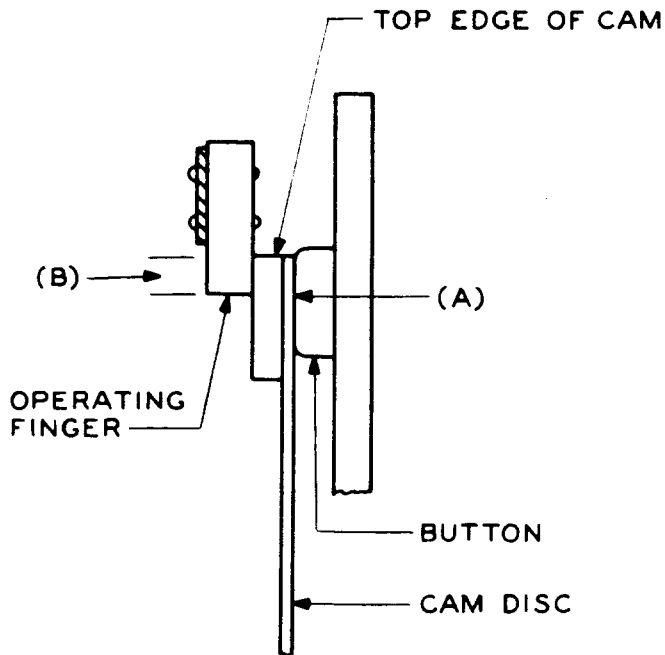

Fig. 3—Vertical Position of Cam
(a) **Fig. 3, (A):** With the motor endplay taken up toward the left, the cam disc shall exert a pressure against the button, measured just in front of the button of
(b) **Fig. 3, (B):** With the cam positioned so the contacts are operated, the bottom of the operating finger shall extend 1/8 inch below the upper edge of the associated cam.